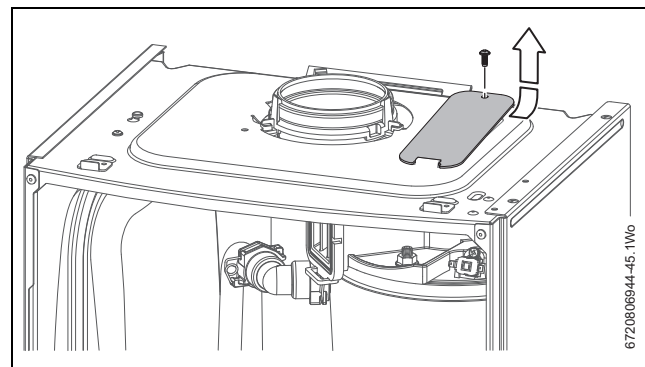

Fig. 71 Access cover plate removal
Refer to figure 71.
- ▶ Access the heat exchanger flue ways by inserting the cleaning brush (7 733 600 091) through the top access hole in the casing, removal of panel shown in figure 71.